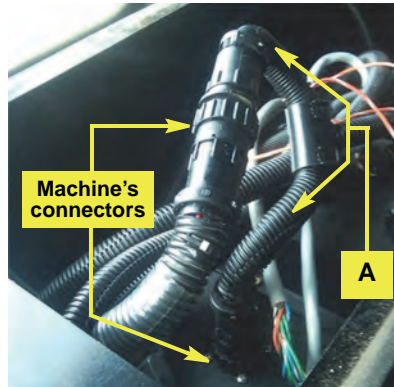

Figure 2c: Interface cable installed
The interface cable shown in Figure 2c is conduit protected. Your interface cable has braided sheath protection.
- c. Connect the two branch cables of interface cable **A** to the machine's corresponding cab harness and bulkhead connector (Figure 2c).